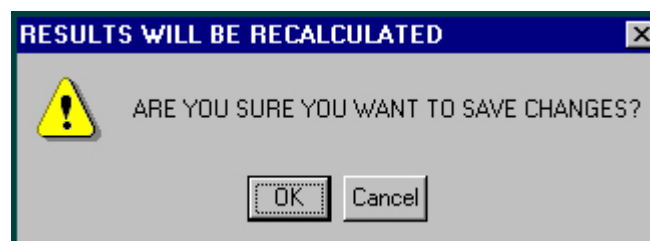

Figure 36
- 606 Click on the "OK" button in the "RESULTS WILL BE CALCULATED" dialog box.. See Figure 36. The "ENTER YOUR DATA PASSWORD" Dialog box will appear.